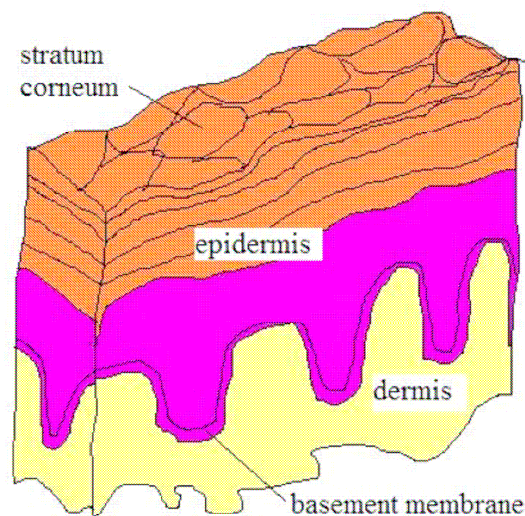

Figure 1
Figure 1. Idealized size distribution of traffic-related particulate matter (U.S. EPA 2004). D_p , particle diameter. The four polydisperse modes of traffic-related ambient particulate matter span approximately four orders of magnitude from < 1 nm to > 10 μm . Nucleation- and Aitken-mode particles are defined as UFPs ($< \text{approximately } 100$ nm). Source-dependent chemical composition is not well controlled and varies considerably. In contrast, NPs (1–100 nm) have well-controlled chemistry and are generally monodispersed.
Fig. 1. (A) Schematic of the film deposition process using slides and beakers. Steps 1 and 3 represent the adsorption of a polyanion and polycation, respectively, and steps 2 and 4 are washing steps. The four steps are the basic buildup sequence for the simplest film architecture, $(A/B)_n$. The construction of more complex film architectures requires only additional beakers and a different deposition sequence. (B) Simplified molecular picture of the first two adsorption steps, depicting film deposition starting with a positively charged substrate. Counterions are omitted for clarity. The polyanion conformation and layer interpenetration are an idealization of the surface charge reversal with each adsorption step. (C) Chemical structures of two typical polyions, the sodium salt of poly(styrene sulfonate) and poly(allylamine hydrochloride).